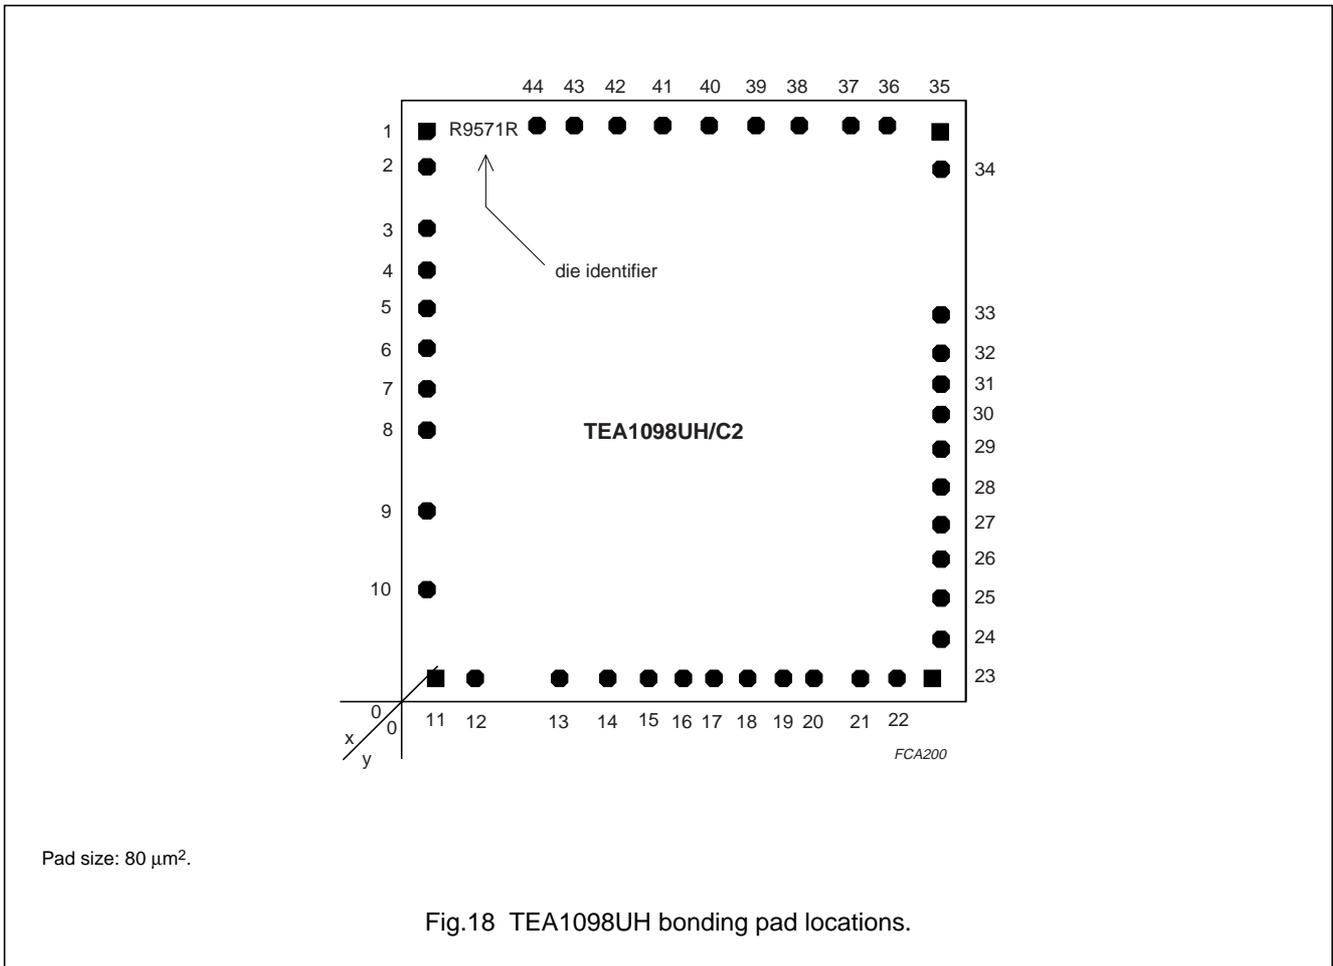

Fig.18 TEA1098UH bonding pad locations.
- All x/y coordinates (in μm) represent the position of the centre of the pad with respect to the origin (x/y = 0/0) of the die (see Fig.18).